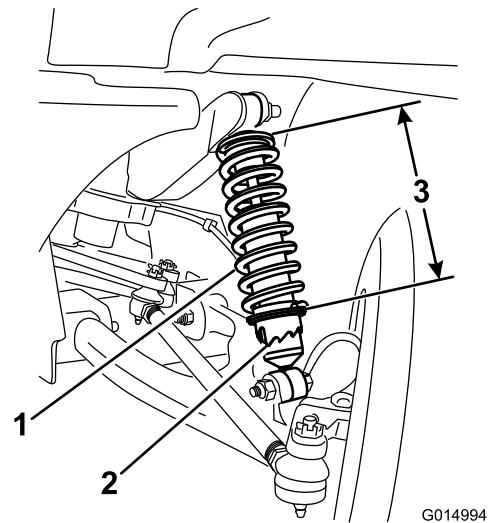

Figure 38
- A. Using tool TORO6010, rotate the collar on the shock absorber to change the length of the spring (Figure 38).